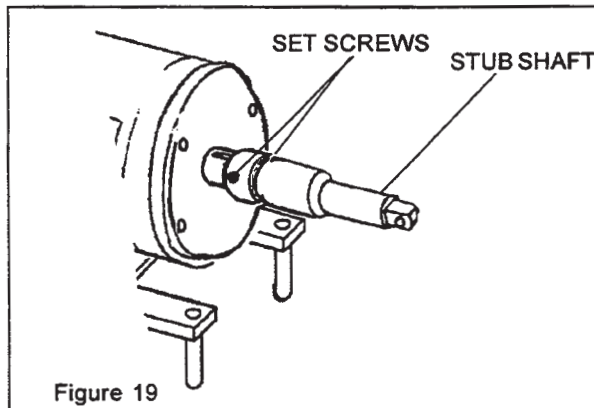

Figure 19
- Loosen the two (2) set screws securing the stub-shaft to the motor shaft. Carefully remove the stub-shaft. The stub-shaft is a tight fit, but can be removed by applying pressure around the periphery of the shaft with a pry-bar. (Figure 19)